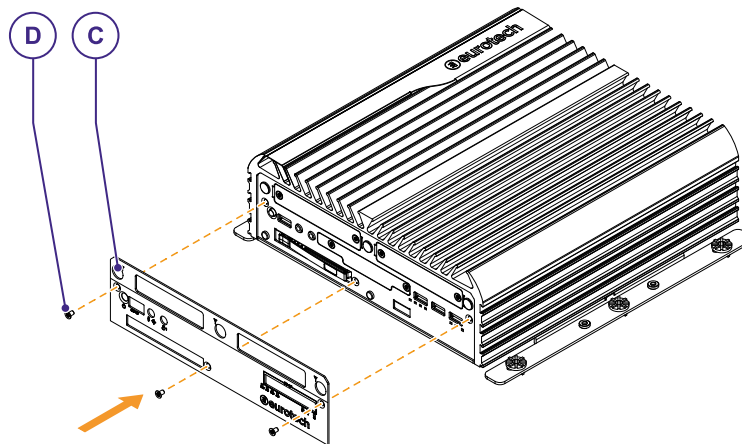

Fig. 8 - Reinstall the Front Panel **C**
3. Put the Front Panel **C** in position (Fig. 8 below).